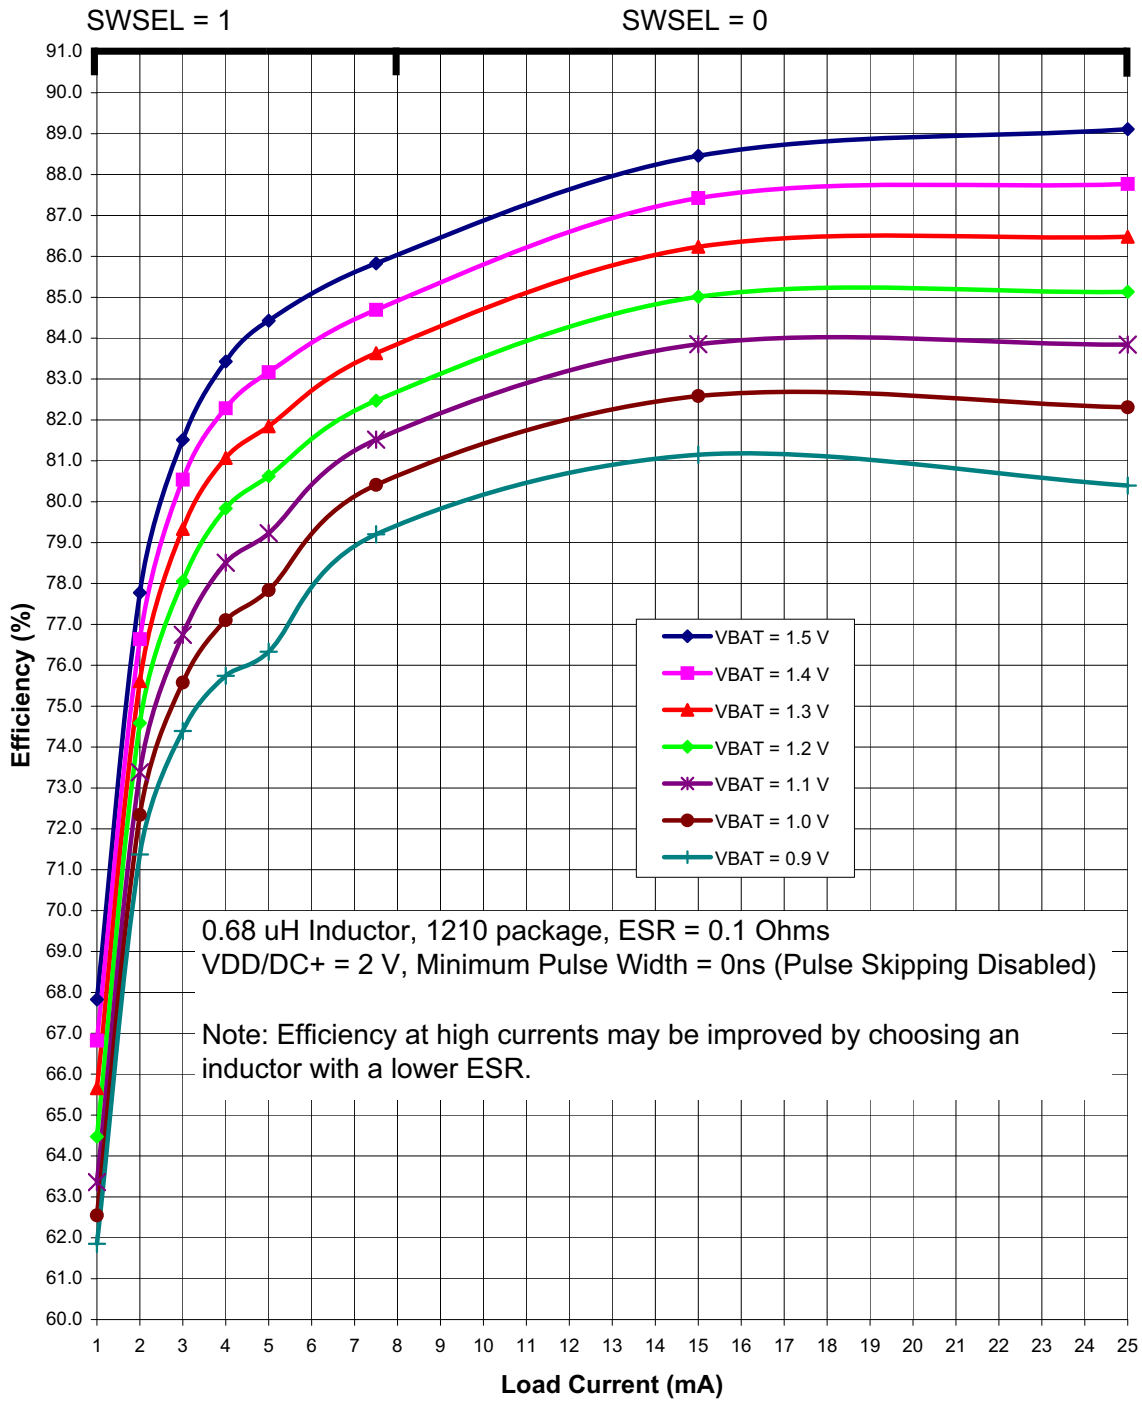
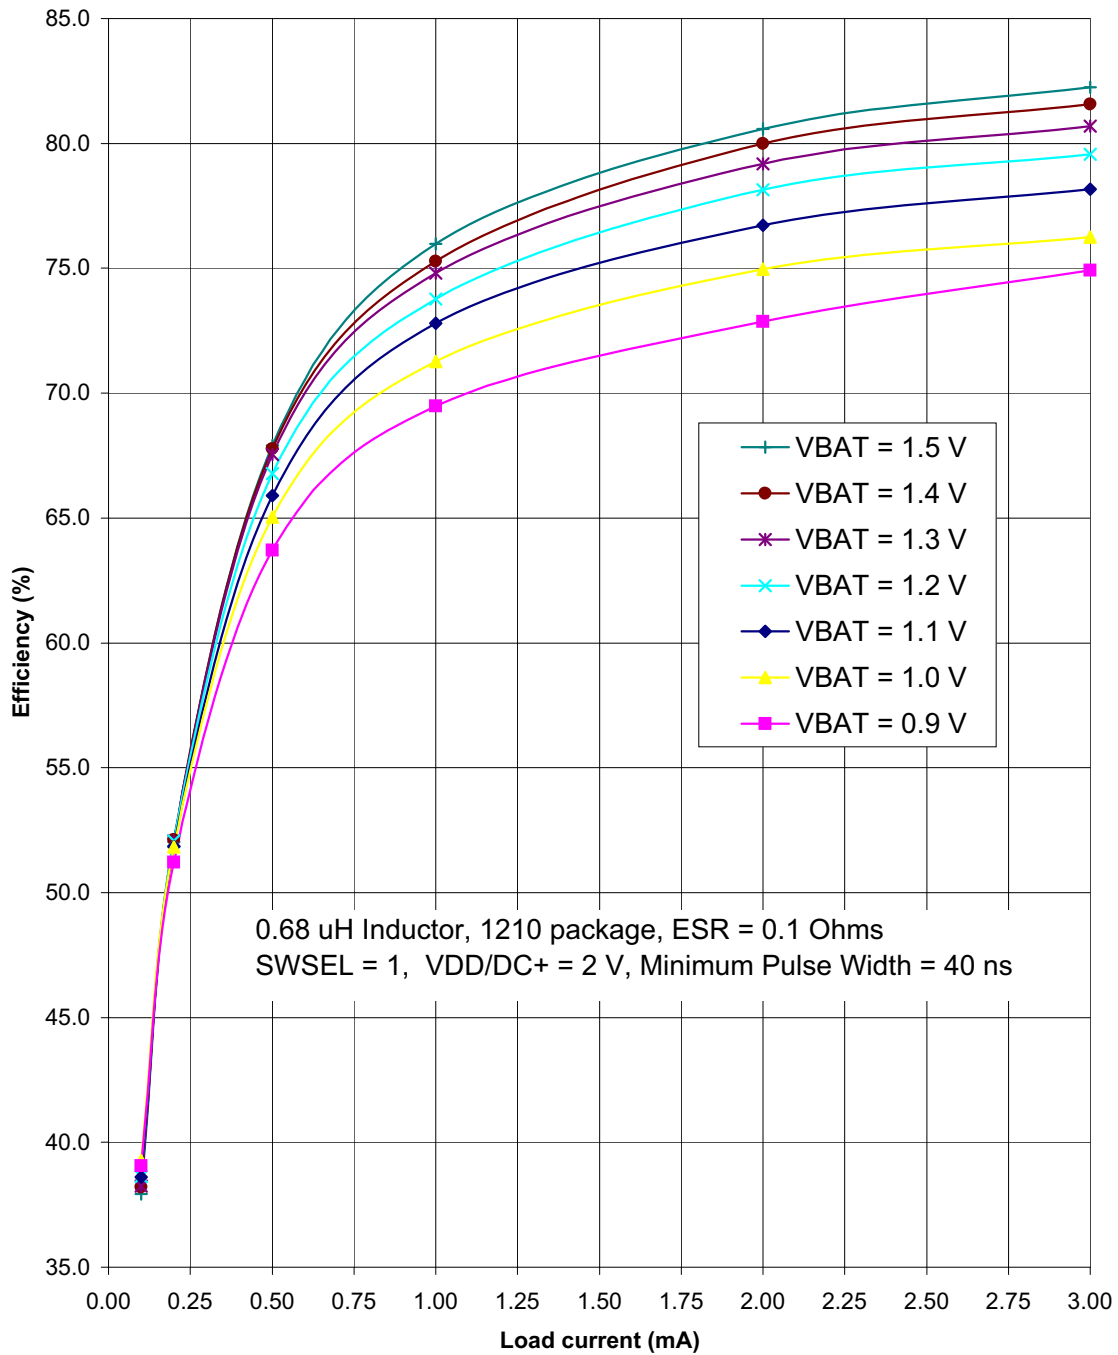

Figure 4.3. Typical DC-DC Converter Efficiency (High Current, VDD/DC+ = 2 V)
Figure 4.5. Typical DC-DC Converter Efficiency (Low Current, VDD/DC+ = 2 V)
<ol style="list-style-type: none"> Based on device characterization data; Not production tested. SYSCLK must be at least 32 kHz to enable debugging. Digital Supply Current depends upon the particular code being executed. The values in this table are obtained with the CPU executing an "sjmp \$" loop, which is the compiled form of a while(1) loop in C. One iteration requires 3 CPU clock cycles, and the flash memory is read on each cycle. The supply current will vary slightly based on the physical location of the sjmp instruction and the number of flash address lines that toggle as a result. In the worst case, current can increase by up to 30% if the sjmp loop straddles a 128-byte flash address boundary (e.g., 0x007F to 0x0080). Real-world code with larger loops and longer linear sequences will have few transitions across the 128-byte address boundaries. Includes oscillator and regulator supply current. IDD can be estimated for frequencies ≤ 10 MHz by simply multiplying the frequency of interest by the frequency sensitivity number for that range, then adding an offset of 90 μA. When using these numbers to estimate I_{DD} for >10 MHz, the estimate should be the current at 25 MHz minus the difference in current indicated by the frequency sensitivity number. For example: $V_{DD} = 3.0$ V; $F = 20$ MHz, $I_{DD} = 4.1$ mA – $(25 \text{ MHz} - 20 \text{ MHz}) \times 0.120 \text{ mA/MHz} = 3.5$ mA. The Supply Voltage is the voltage at the VDD_MCU pin, typically 1.8 to 3.6 V (default = 1.9 V). Idle IDD can be estimated by taking the current at 25 MHz minus the difference in current indicated by the frequency sensitivity number. For example: $V_{DD} = 3.0$ V; $F = 5$ MHz, Idle $I_{DD} = 2.5$ mA – $(25 \text{ MHz} - 5 \text{ MHz}) \times 0.095 \text{ mA/MHz} = 0.6$ mA. The supply current specifications in Table 4.2 are for two cell mode. The VBAT current in one-cell mode can be estimated using the following equation: $\text{VBAT Current (one-cell mode)} = \frac{\text{Supply Voltage} \times \text{Supply Current (two-cell mode)}}{\text{DC-DC Converter Efficiency} \times \text{VBAT Voltage}}$ <p>The VBAT Voltage is the voltage at the VBAT pin, typically 0.9 to 1.8 V. The Supply Current (two-cell mode) is the data sheet specification for supply current. The Supply Voltage is the voltage at the VDD/DC+ pin, typically 1.8 to 3.3 V (default = 1.9 V). The DC-DC Converter Efficiency can be estimated using Figure 4.3–Figure 4.5.</p> The EZRadioPRO peripheral is placed in Shutdown mode.